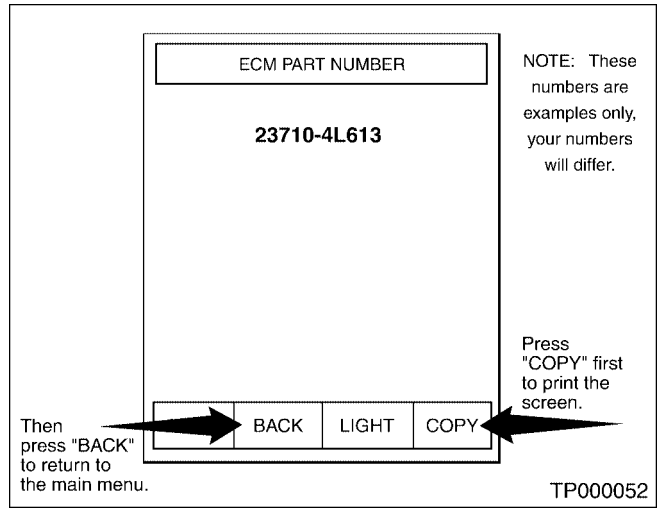

Figure 12
13. Press "COPY" to print the ECM PART NUMBER screen (see Figure 12). **Attach this printout to the repair order.** Then press "BACK" to return to the CONSULT-II main menu.